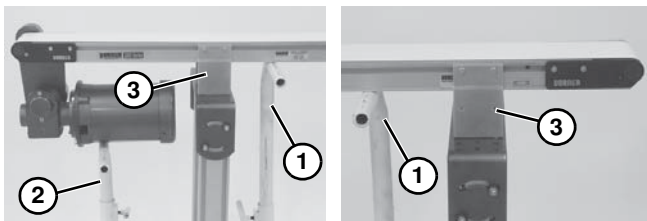
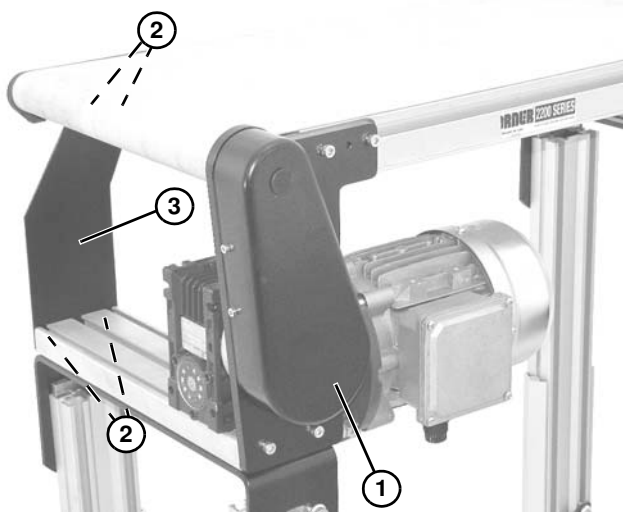

Figure 43
Figure 44
1. Place temporary support stands (**Figure 43, item 1**) at both ends of the conveyor. Place an additional support stand (**Figure 43, item 2**) under the drive motor, if equipped. See WARNING.
2. If equipped, remove mounting brackets (**Figure 43, item 3**) from one side of conveyor. (Reverse steps 3 & 4 of "Mounting Brackets" section beginning on page 11.) If equipped with heavy load drive package, remove brackets from side opposite drive cover (**Figure 44, item 1**).
3. If equipped, remove return rollers and guiding and accessories from side opposite drive cover (**Figure 44, item 1**).
4. If equipped with heavy load drive package, remove bracket screws (**Figure 44, item 2**) and drive support bracket (**Figure 44, item 3**).